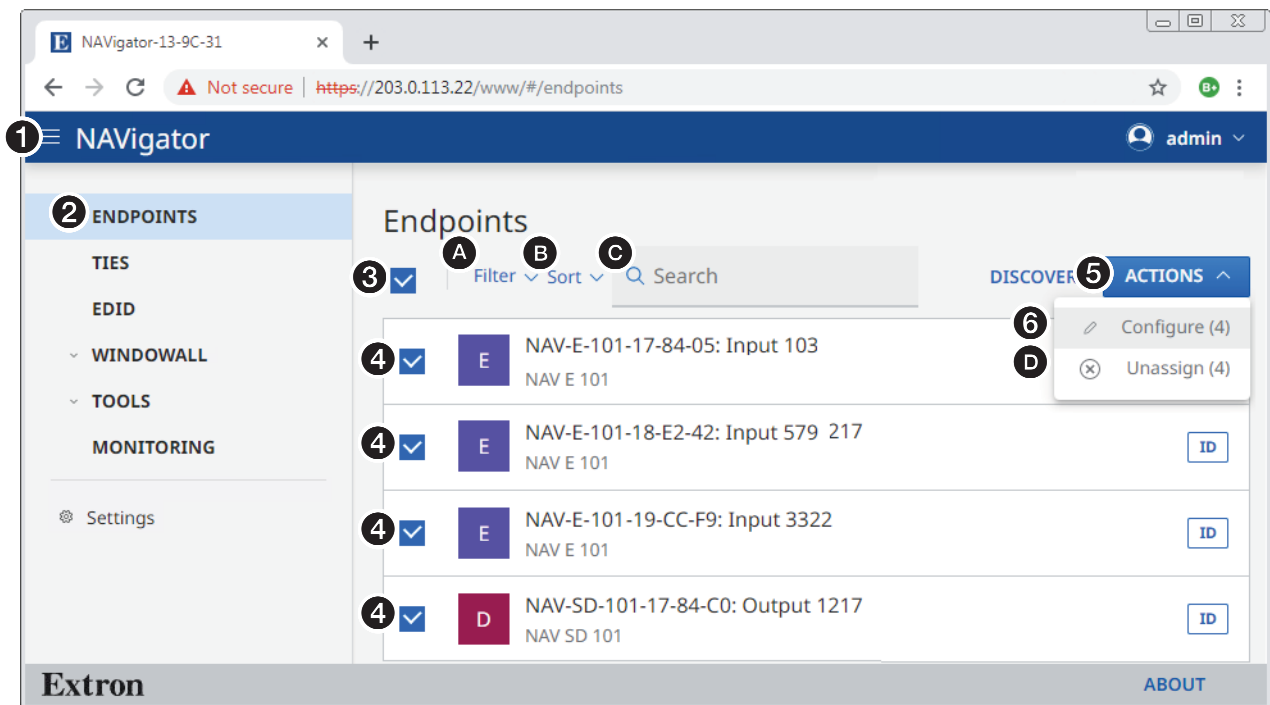

Figure 31. Accessing Bulk Configuration Tools
1. If necessary, click the **Menu** icon (see figure 31, ①).